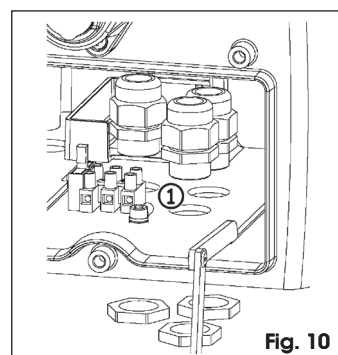

Fig. 10
3. Install the three supplied cable grippers in the respective holes under the motor body (Fig.10 ref.①) respecting the orientation shown in Fig. 10.